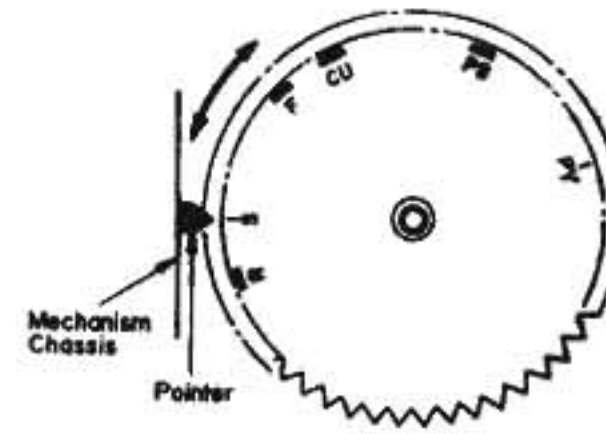

Fig. 2.1
(1) Offset Adjustment of Control Motor Driver
- (a) Refer to Fig. 2.1.